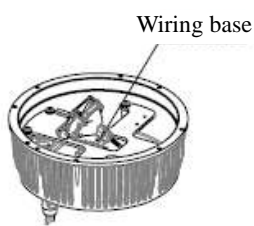

Figure 5-5
- Pull out the lamp pin out of the binding post (shown in Figure 5-5);